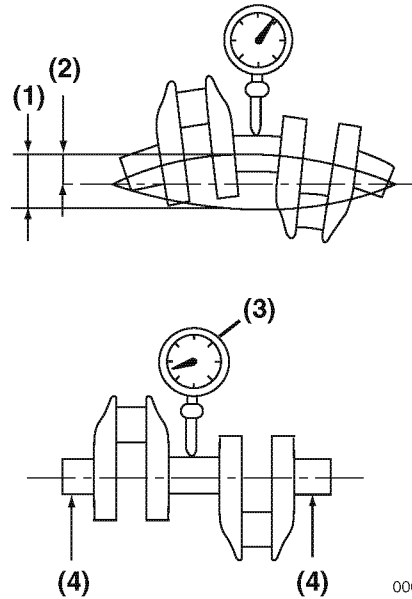

Figure 6-73
1. Put the crankshaft end journals (**Figure 6-73, (4)**) on V-blocks.
2. Place a dial indicator (**Figure 6-73, (3)**) on a center main bearing surface.